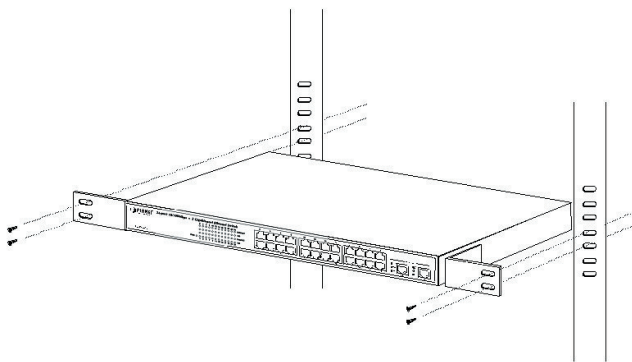

Figure 2-4 Mounting the FGSW-2620 in a Rack
Step5: After the brackets are attached to the switch, use suitable screws to securely attach the brackets to the rack, as shown in Figure 2-4.